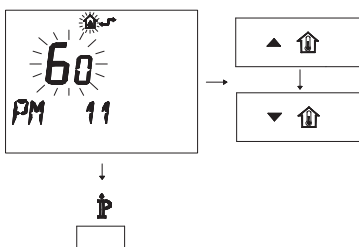

Fig. 7.34
- To modify the programmed SET, act on buttons **▲** **HOUSE** or **▼** **HOUSE** and wait for the programmed number to flash (Fig. 7.34). Each step increased or decreased corresponds to 1 second.